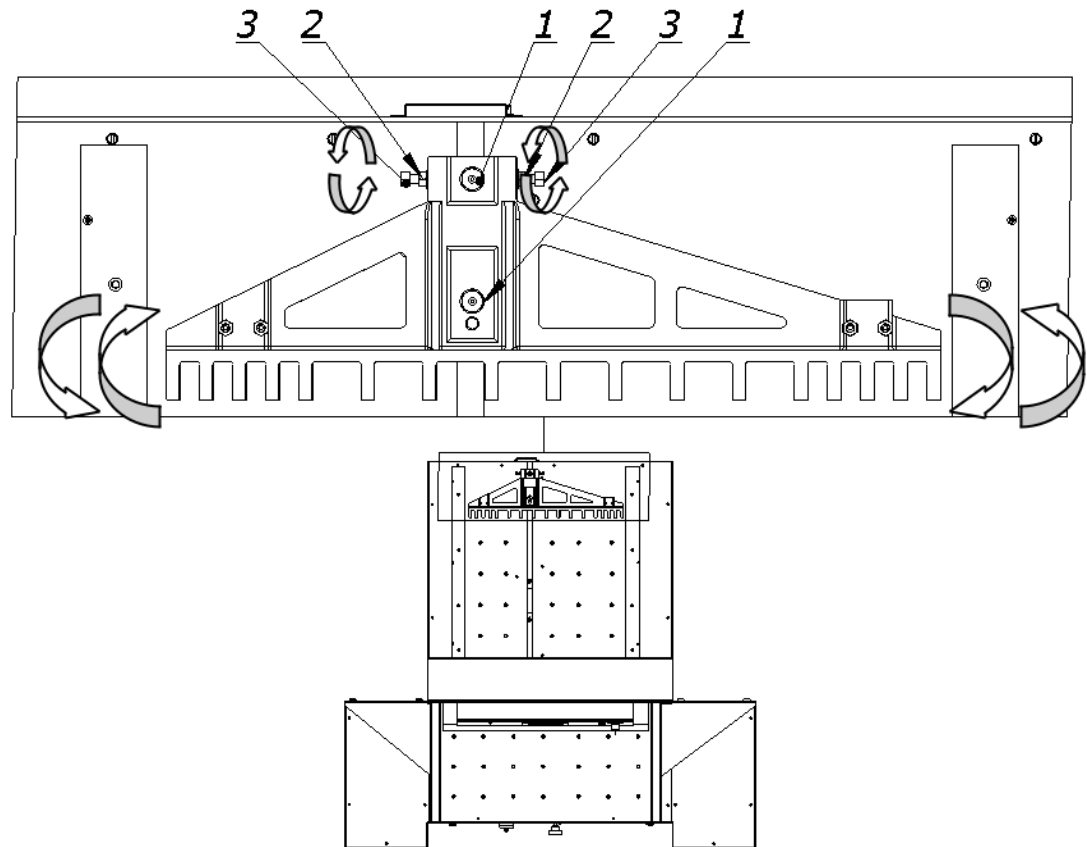

Figure 43. Elements of the backgauge
8.4.3 loosen the screws (1, Fig. 43)
8.4.4 loosen the nuts (2, fig.43)
8.4.5 by turning the screws (3), place the backgauge (4, fig. 43) at the right angle
8.4.6 lock the adjustment screws with (3) nuts (2, fig. 43)
8.4.7 firmly tighten the screws (1, fig.43)